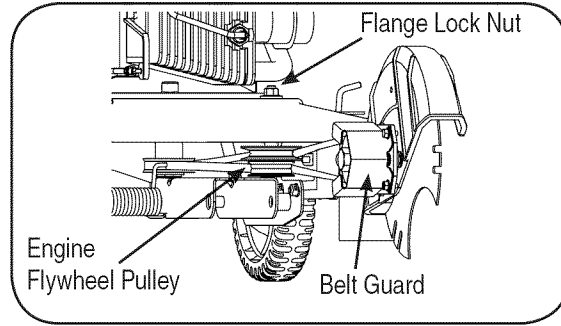

Figure 5-4: Remove the belt from around the pulley.
2. With your other hand, carefully reach under the rear of the unit and remove the belt from around the engine flywheel pulley, Figure 5-4.